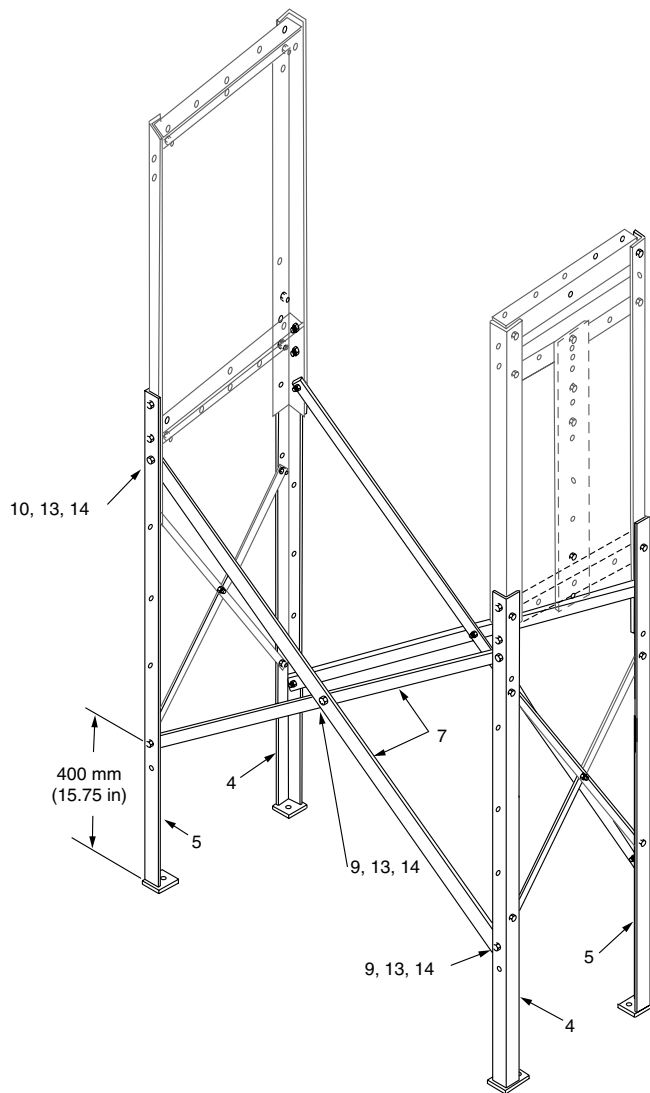

Figure 11. Attaching long cross braces (Item 7).
7. Attach the upper ends of the long cross braces (Item 7) to the upper posts (Items 2 and 3) and lower posts (Items 4 and 5). Use 1.50" hex head capscrews (Item 10), and secure with lockwashers (Item 14) and .5" hex nuts (Item 13). See Figure 11.
8. Attach the lower ends of the long cross braces (Item 7) to the lower posts (Items 4 and 5), with 1.25" hex head capscrews (Item 9), and secure with lockwashers (Item 14) and .5" hex nuts (Item 13). See Figure 11.
9. Attach the long cross braces (Item 7) at their midpoint with 1.25" hex head capscrews (Item 9), and secure with lockwashers (Item 14) and .5" hex nuts (Item 13). See Figure 11.